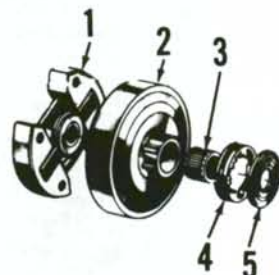

Fig. H14—Exploded view of clutch.
CLUTCH. All models are equipped with the two-shoe centrifugal clutch shown in Fig. H14. Clutch hub (1) has left hand threads. Inspect clutch shoes and drum for excessive wear or damage due to overheating. Clean and inspect clutch hub, drum and bearing for damage or excessive wear. Inspect clutch bearing lubrication hole in crankshaft end and clutch bearing contact surface on crankshaft for wear or damage.